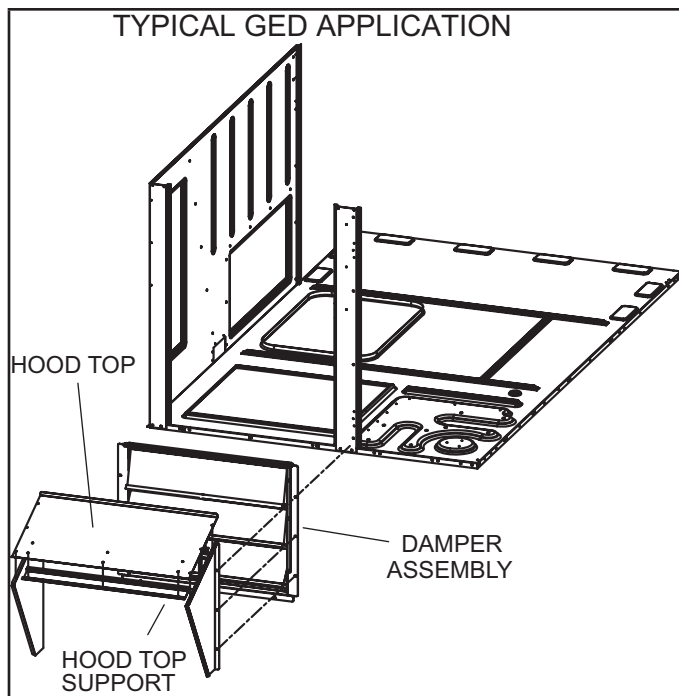

FIGURE 10
- 1 - Attach hood top to hood top support at the top of the damper assembly. See FIGURE 10.
- 2 - Remove screws from sides of economizer assembly (if installed). Remove paper backing from foam gaskets on hood sides. Secure left and right hood sides to the damper assembly as shown in FIGURE 10.